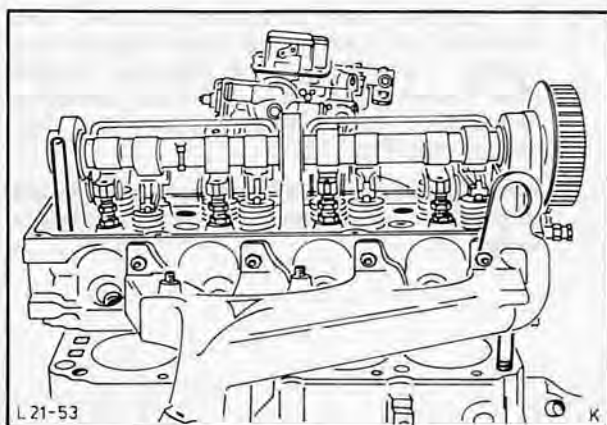
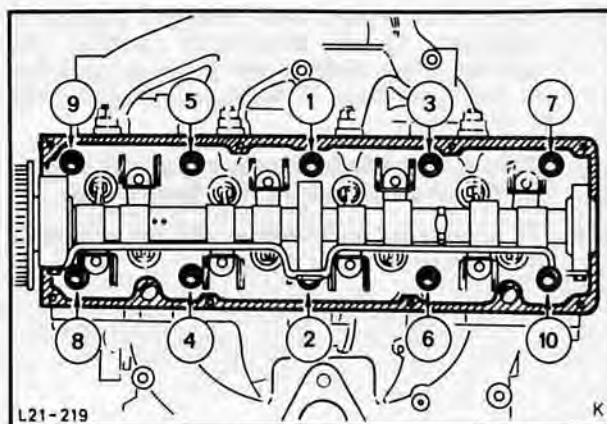

Fig. 112. Fit cylinder head with aid of locating studs 21-003
Fig. 113. Cylinder head bolt tightening sequence
54. Screw in Special Tool 21-003, as shown in Fig. 112, in place of cylinder head bolts 7 and 9, Fig. 113, and fit head gasket.
55. Fit cylinder head, Fig. 112, and insert bolts finger-tight. Replace the two locating studs with the two remaining bolts. Torque cylinder head bolts as specified using Special Tool 21-002 in three stages proceeding in the sequence shown in Fig. 113.